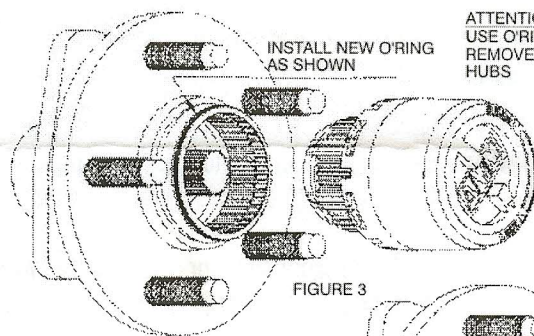

FIGURE 3
- 1-) Install new Mile Marker O'Ring as shown (Fig. 3)